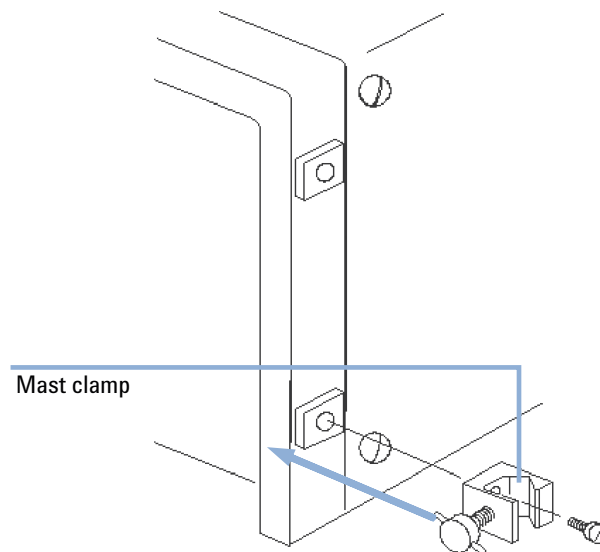

Figure 1 Mast clamp installation
- 2 Attach a mast clamp to the fitting at the lower front corner of the bottom 210/218 pump and on the top front corner of the top pump, see Figure 1 on page 8 .